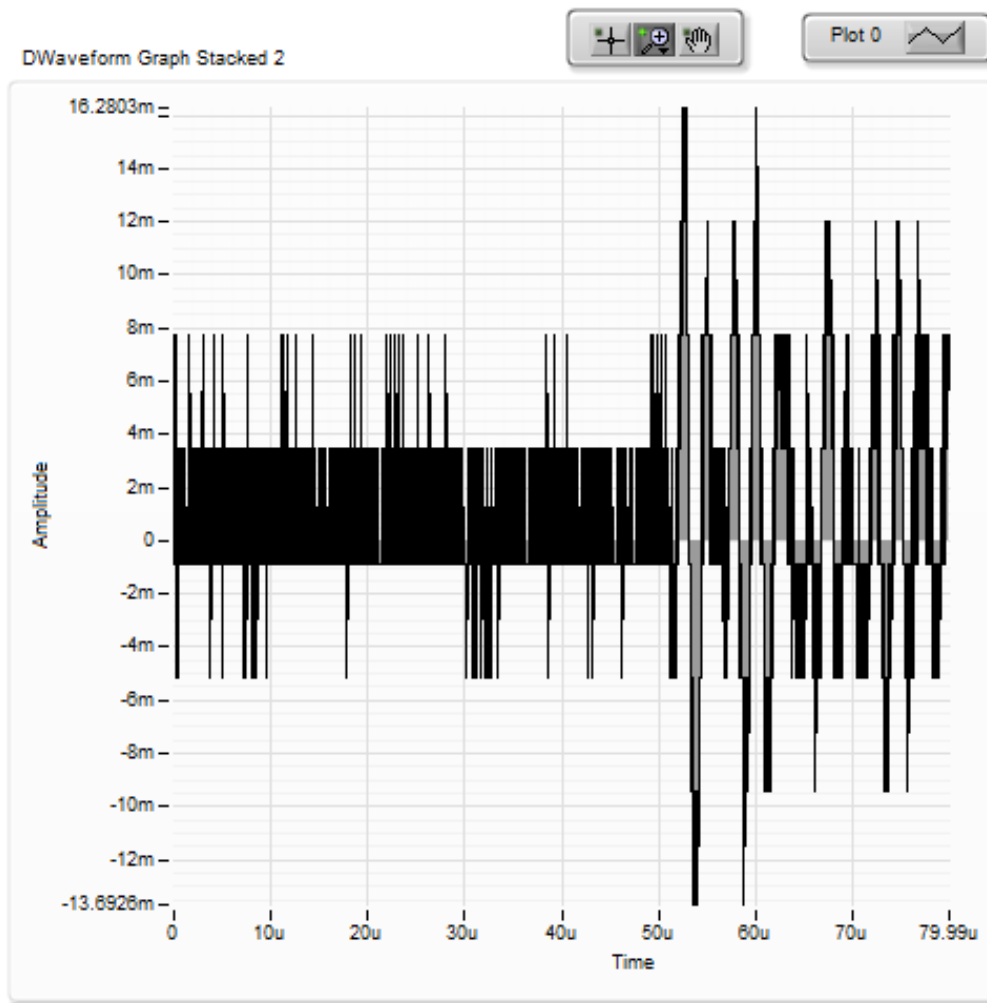

Figure 22. Shipboard P-wave signal.
*Figure 22* helps summarize the following signal processing discussion.
In Figure 22 the received waveform is 60  $\mu\text{sec}$  long and digitized at 10 nsec intervals. The first 10  $\mu\text{sec}$  of the waveform is replaced with zeros to remove a large spike that occurs at the beginning of the outgoing pulse. We believe that this noise is generated by the electrical "cross-talk" within the pulser-receiver.
A Butterworth Bandpass filter is applied to the waveform to reject frequencies less than 0.4 MHz and above 1.0 MHz. The results of this filtering is stacked, summed, and averaged (ensemble averaging). The size of the stack is pre-set by the user to a value between 10 and 100. Even with this initial filtering and ensemble averaging, the resulting signal can still contain significant noise generated by the shipboard environment. Figure 22 is typical of the signal quality.